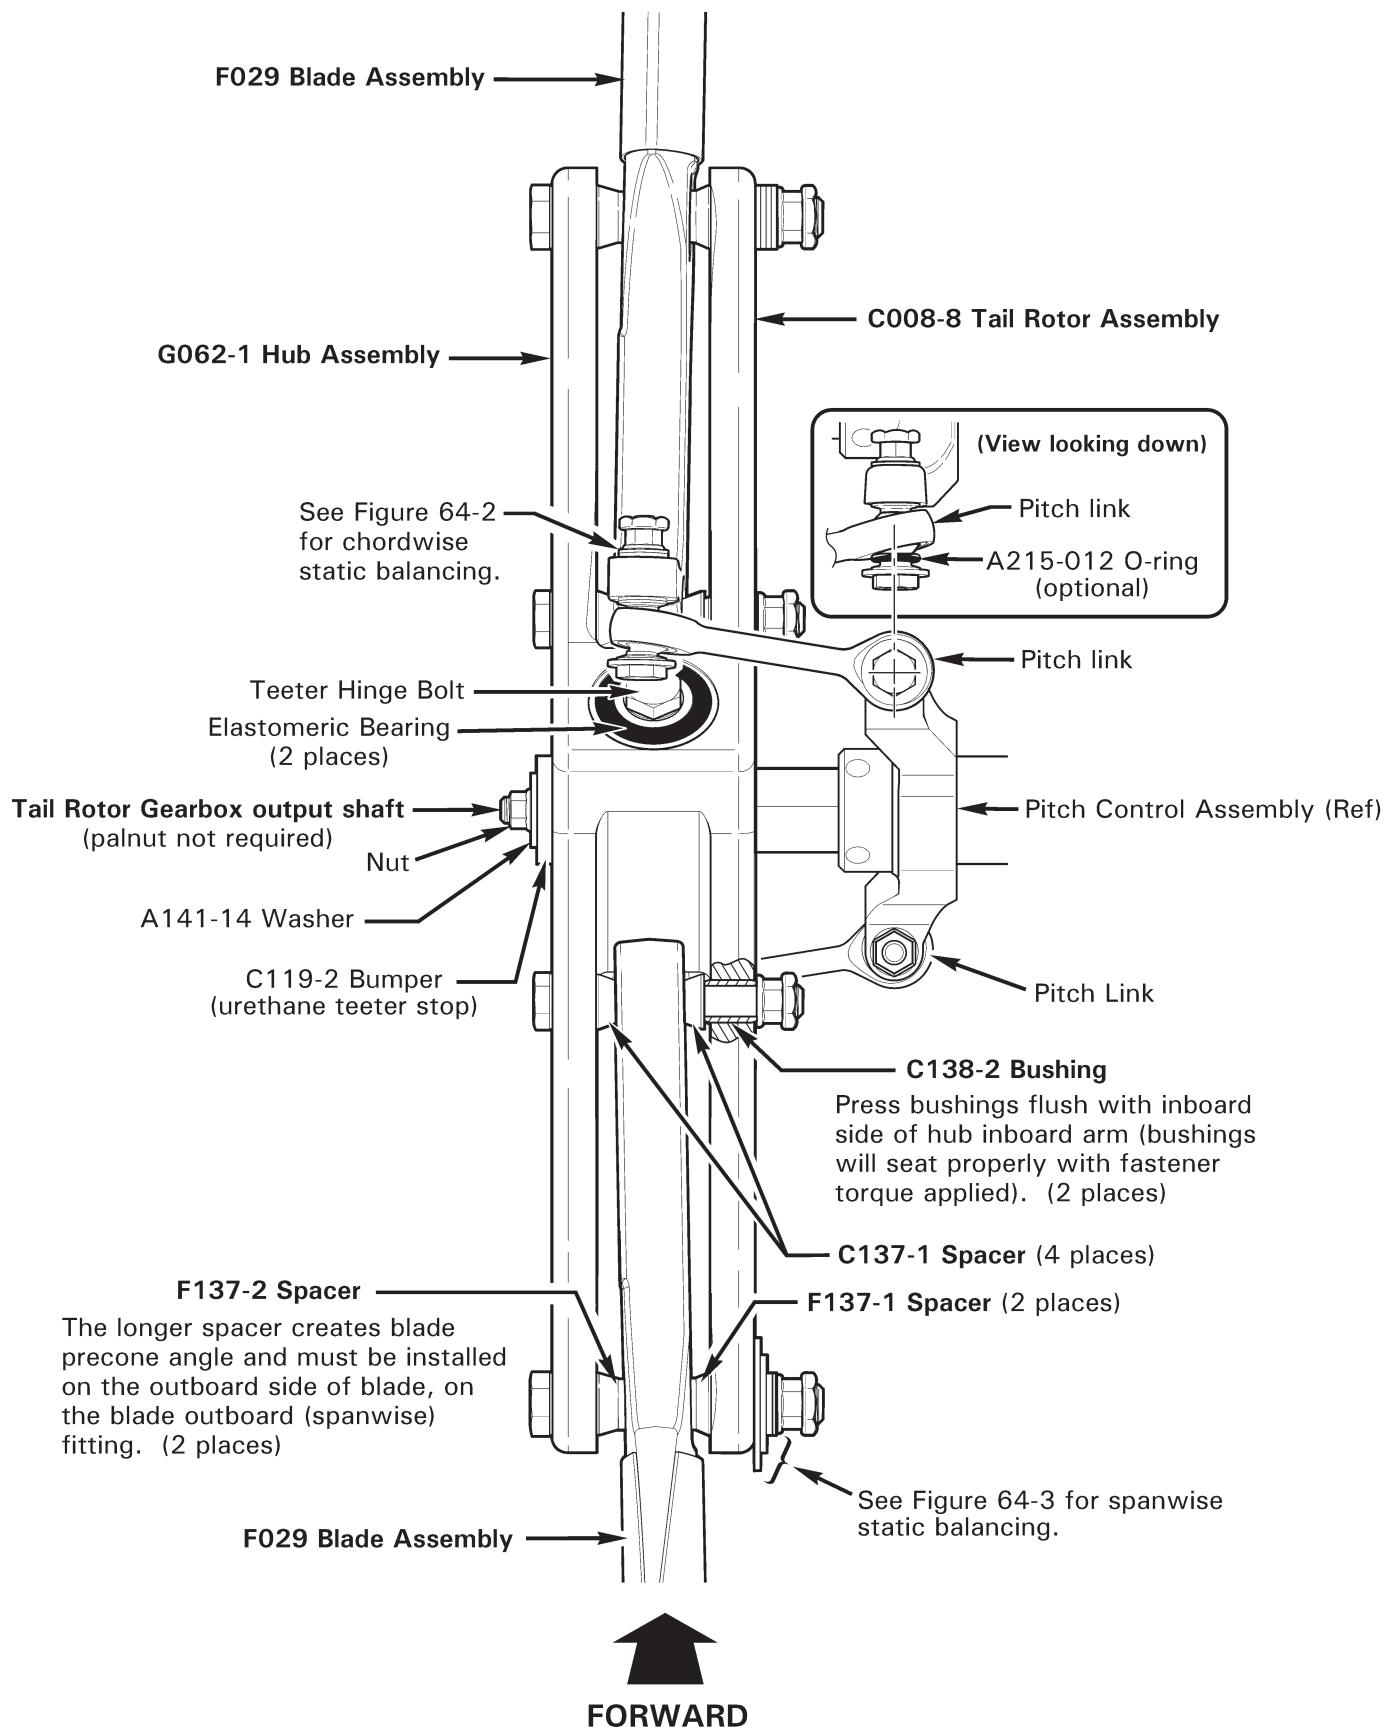

FIGURE 64-1 TAIL ROTOR INSTALLATION
1. Refer to Figure 64-1. Tag each pitch link with corresponding blade serial number. Disconnect pitch links from tail rotor blades; keep associated hardware with each link.
3. Refer to Figure 64-1. Position tail rotor assembly on tail rotor gearbox output shaft, matching tail rotor blades to corresponding pitch links. Verify tail rotor is installed for clockwise rotation when viewed from left side of aircraft.
2. Refer to Figure 64-1. Remove hardware securing F029 blade assemblies to G062-1 hub assembly. Remove blades, spacers, and hardware; do not remove C138-2 bushings unless required.
1. Refer to Figure 64-1. If removed, apply light coat of approved primer per § 20-70 to outer surface of C138-2 bushings; while primer is wet, press bushings flush with inboard side of hub inboard arm (bushings will seat properly with fastener torque applied).